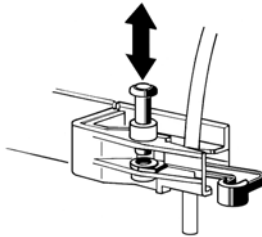

figure 13
- 5 - It is possible to lock the faucet by pushing the proper pin on the faucet body (see figure 13).